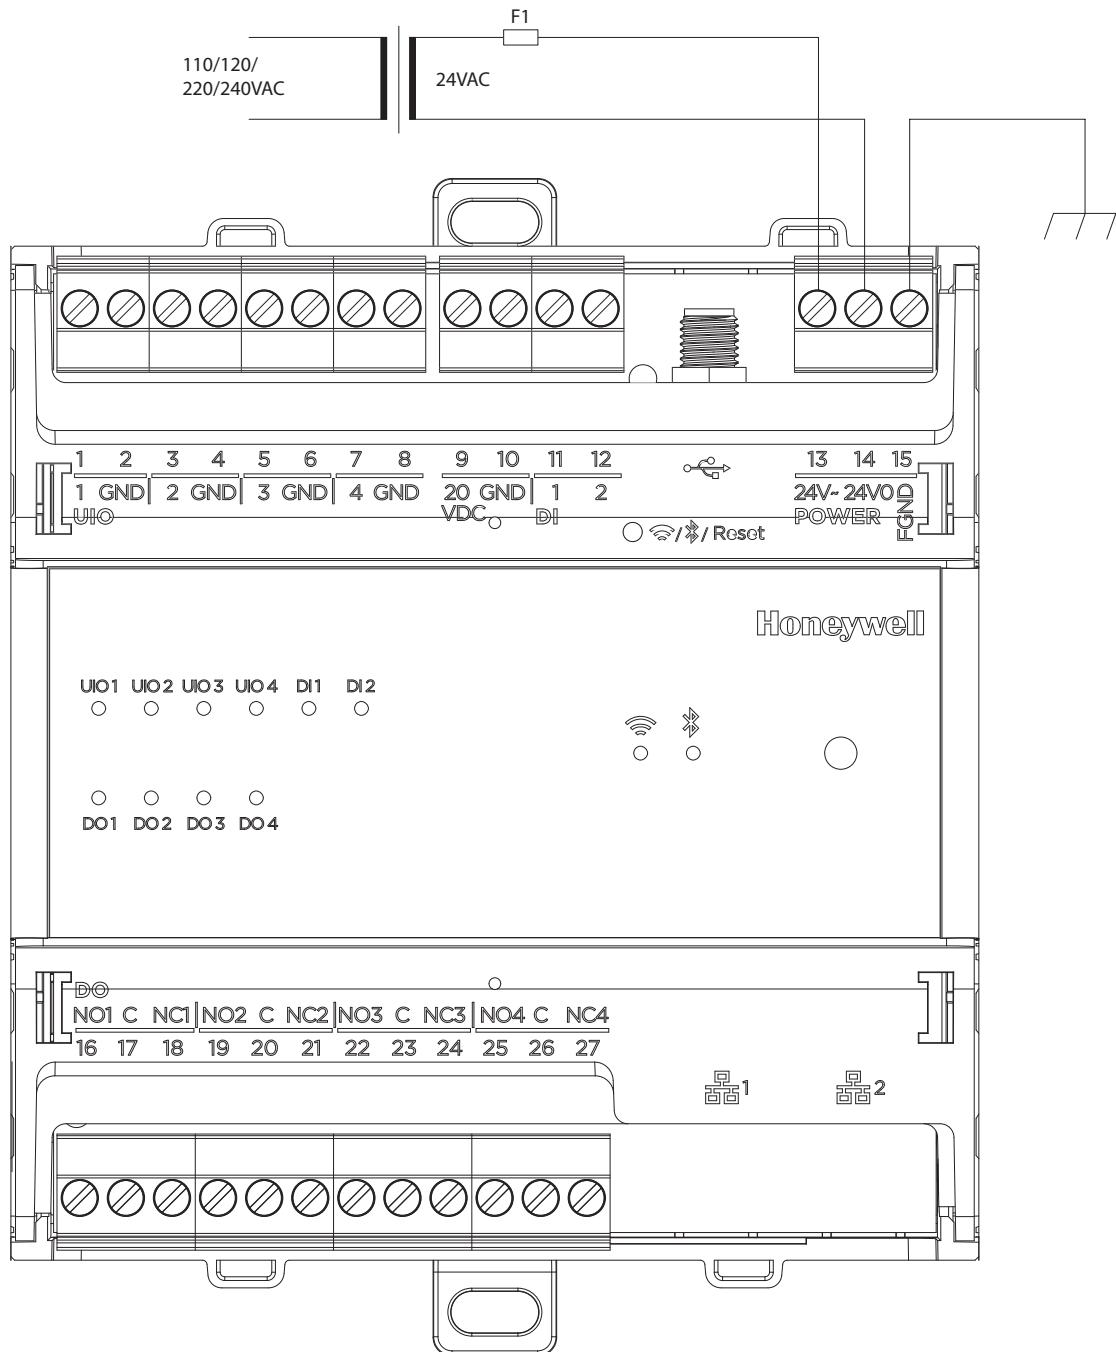
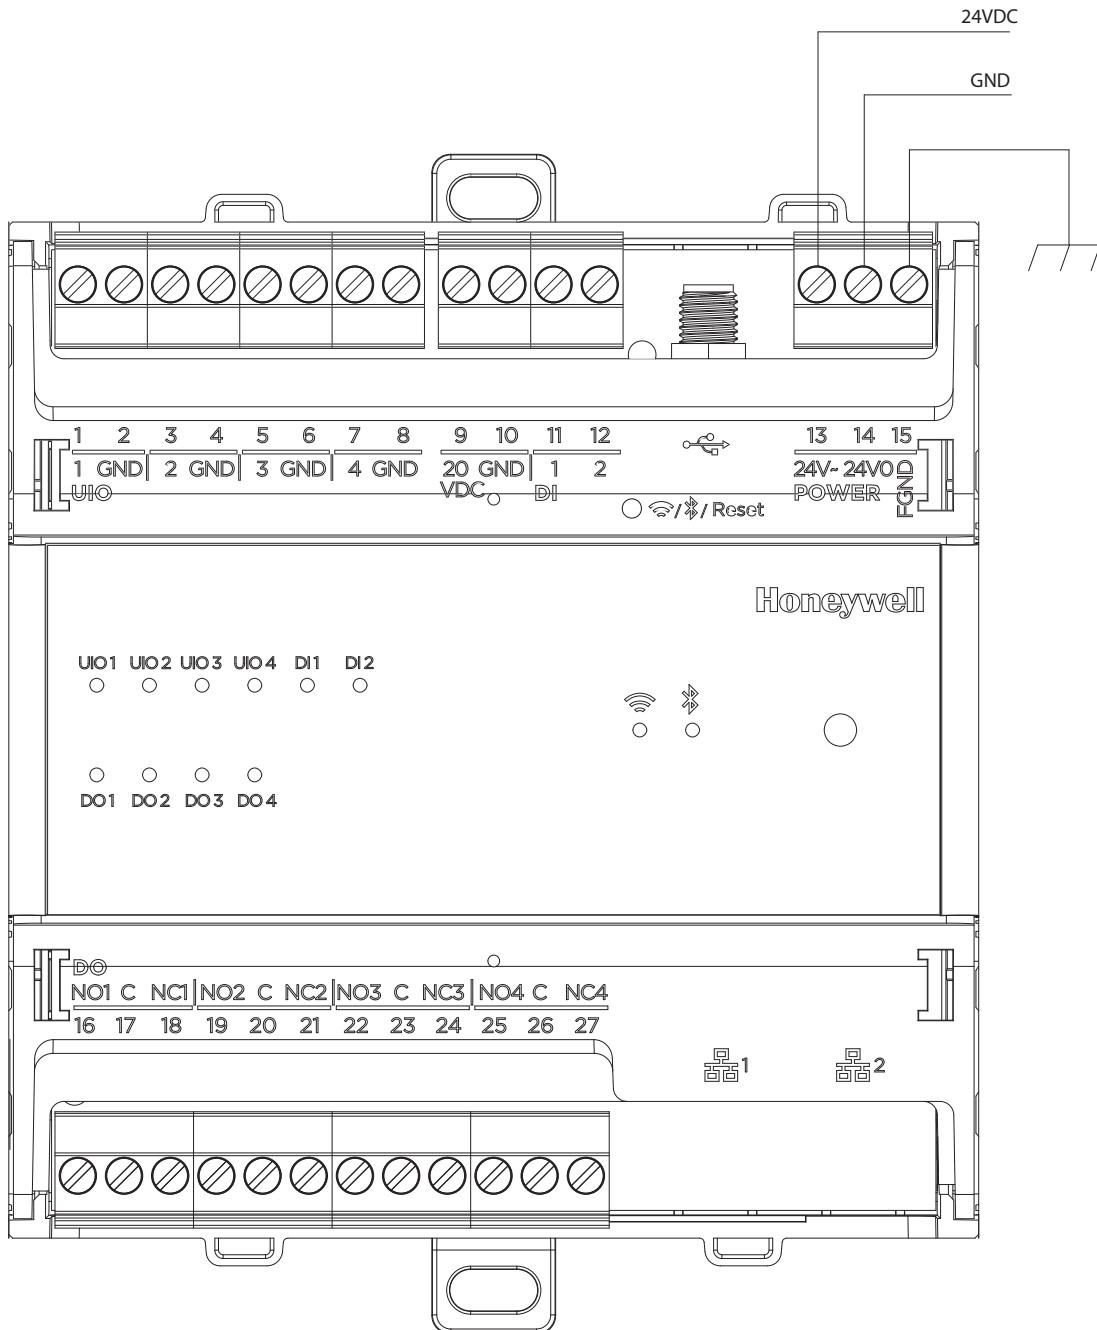

Fig. 2. Power supply Vac
Fig. 3. Power supply Vdc
- * Refer to Fig. 2 for AC power supply and Fig. 3 for DC power supply.